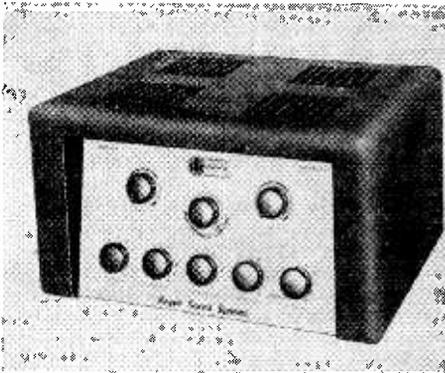

Fig. 1. A modern PA amplifier designed for both constant voltage and constant impedance distribution systems.
- C. Leakage in discharge capacitor (See C153 in Fig. 1, C73 in Fig. 3, C1 of Fig. 4, C80 and C182 of Fig. 5 and C79 of Fig. 6).
Let us see if we can isolate the defect any further by effect-to-cause reasoning. The vertical oscillator frequency is adjusted by the Hold control in the typical circuit shown in Fig. 1, the vertical Hold control is located in the grid circuit of the oscillator stage. If you are able to adjust the Hold control and bring the oscillator to the correct frequency, it indicates that the oscillator will work at the correct frequency. Oscillators of this type, however, are not stable, and if no synchronizing pulses are applied to the oscillator, the frequency will drift rapidly and the oscillator will not remain exactly in step with the vertical sweep oscillator in the TV transmitter.
In Fig. 1, the following resistors will affect, in varying degrees, the frequency at which the vertical oscillator operates: R171, R172, R174, R175, and R177. These resistors can be checked with an ohmmeter. Any resistor that measures beyond the rated tolerance should be replaced. Capacitor C152 and the output .005 mfd unit in the integrator network also affect the oscillator frequency. If the resistors prove good, check the capacitors either by checking them on an R-C Tester or by substitution. In the case of the .005 mfd a new printed integrator should be tried.
If the resistors and capacitors used in the oscillator circuit all check good, the trouble may be due to a defective blocking oscillator transformer. In Fig. 1 this is designated as T104.